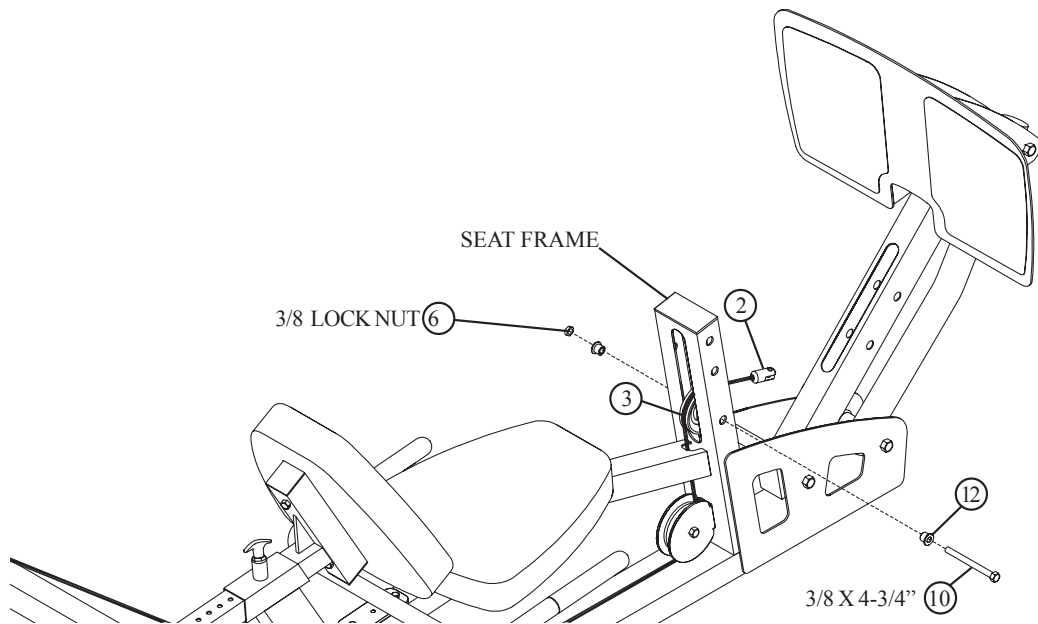

FIGURE 9
- Carefully route the LEG PRESS CABLE (2) around one 3-1/2" PULLEY (3) and **SECURELY** assemble the 3-1/2" PULLEY (3) to the SEAT FRAME using one 3/8 X 4-3/4" BOLT (10), two STEP SPACERS 1-19/32" (12) and one 3/8" LOCK NUT (6) as shown in FIGURE 9. Make sure the CABLE is in the grooves of all the pulleys.